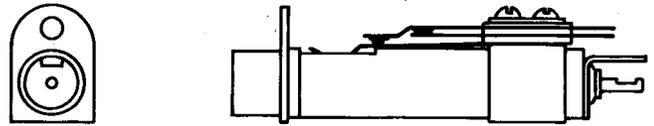

Fig. 11—561-Type Jack
2.11 **561A, B, C, and D:** These are coaxial-type jacks (Fig. 11).